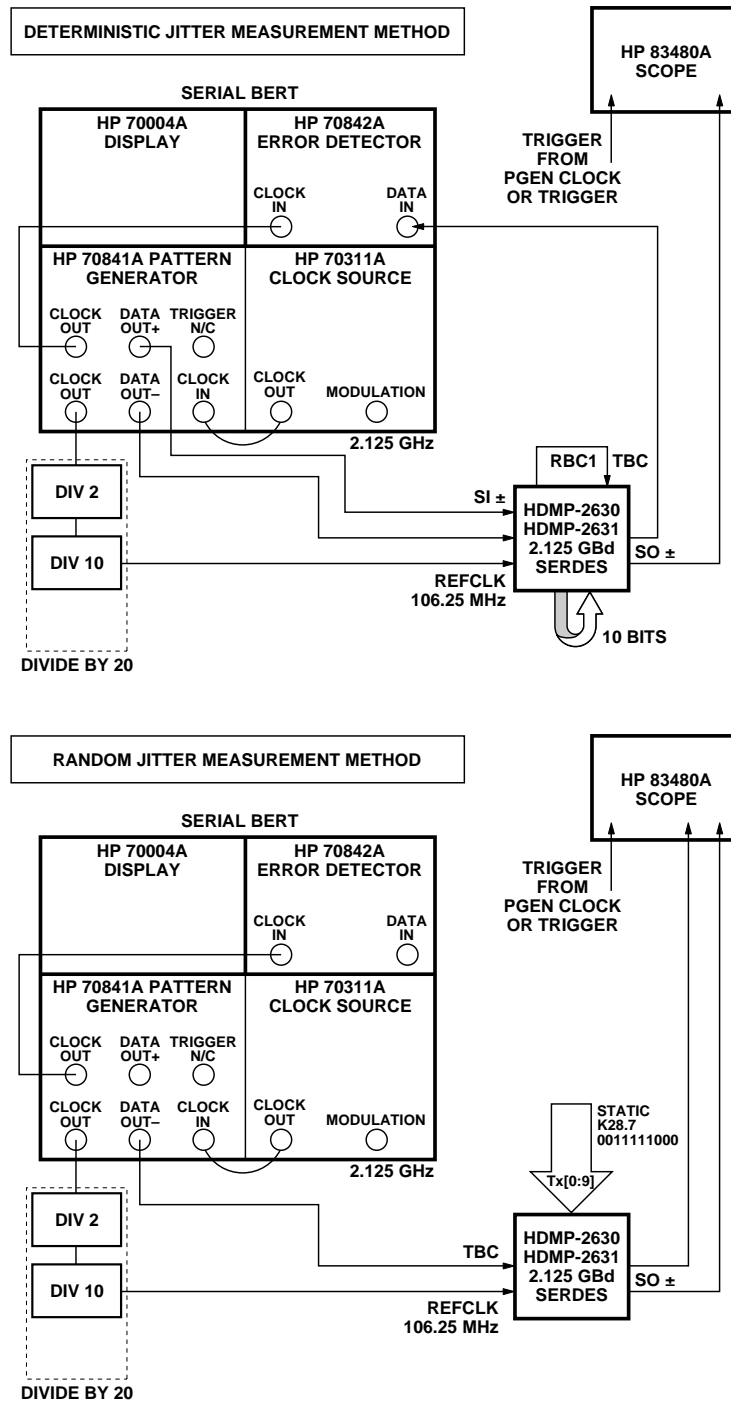

Figure 8a-b. Transmitter deterministic and random jitter measurement method.
2. Defined by Fibre Channel Specification X3.230-1994 FC-PH, Annex A, Section A.4.3 and tested using the setup shown in Figure 8a.
3. Defined in the Fibre Channel Technical Report "Methodologies for Jitter Specification," Annex B, and tested using the setup shown in Figure 8a.